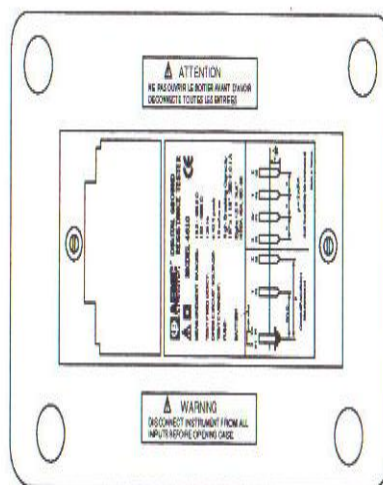

Figure 3
- Remove the battery compartment cover to gain access to the eight 1.5 V "AA" batteries (See Figure 3).